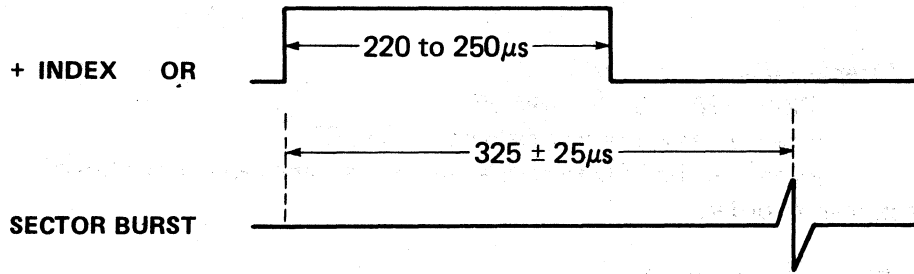

Figure 6-4 SECTOR BURST TIMING
4. Seek to track 01 and observe the Sector Burst signal. It should be similar to Figure 6-4.